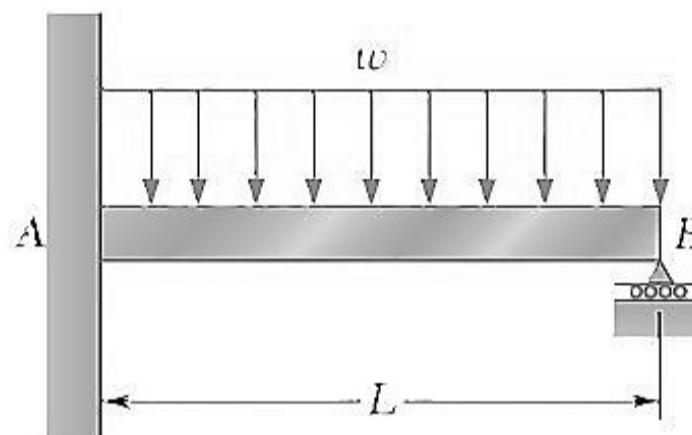

Fig. 6
7. Determine the reactions at the supports for the prismatic beam and loading shown in Fig. 6.